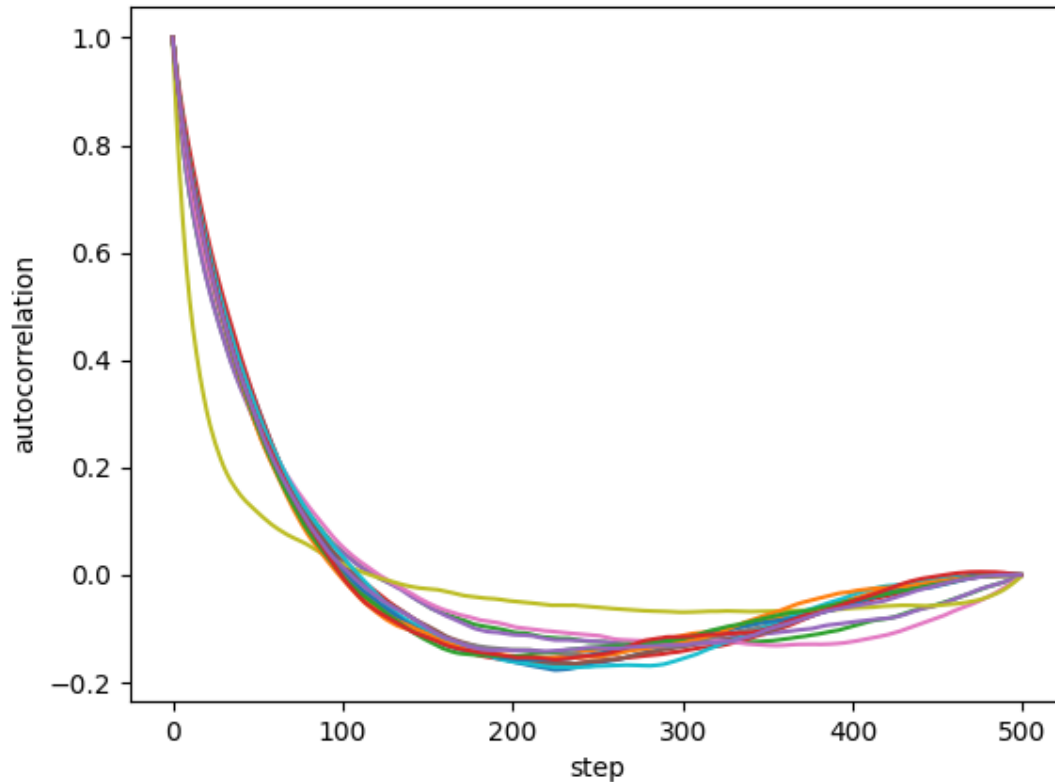

Figure 14 The autocorrelation of each parameter in the MCMC chains.
- Examine the MCMC files created during the sampling step, let's look at "steps-autocorrelation.png" to start with, Figure 14. It looks like zero autocorrelation is obtained after ~100 steps. However, this isn't the best autocorrelation graph, the curves drop significant below the X-axis. Normally to get a good estimate of the autocorrelation time one has to run for tens of times longer than the autocorrelation time. For example, if the autocorrelation time is 100, then acquiring 200 steps would only give ~2 samples contributing to this graph for a lag time of 100. This graph tells us that we should *thin* by a factor of 100, either during sampling or post processing.